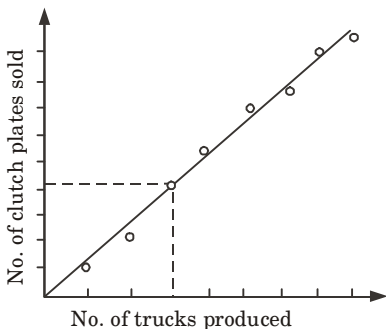

Fig. 2.7.1. Correlation data.
1. This technique is employed when an organisation finds that the sale of its product has a remarkable relationship with the sales of a leading product of another organisation, e.g., sales of clutch plates is correlated with the sales of trucks produced, (Fig. 2.7.1).
3. Such past data when plotted on the graph paper (Fig. 2.7.1) with line of best fit drawn, can predict sales estimate for future.